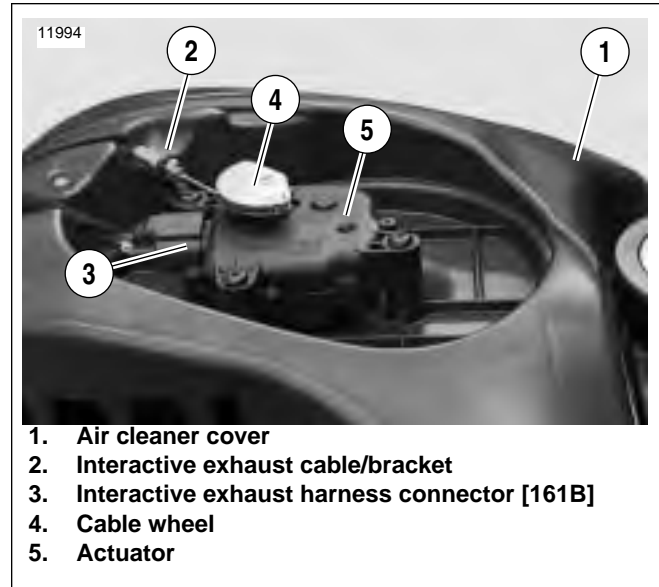

Figure 7-21. Interactive Exhaust Actuator
6. See Figure 7-21. Remove fuel vent tube from fuel cell vent and groove on top of air cleaner cover (1).
7. Disconnect harness connector [161B] (3) from actuator.
8. Add freeplay to interactive exhaust cable (2), loosen jam nut and remove cable from bracket on actuator.
9. Remove interactive exhaust cable from cable wheel (4) on actuator (5).